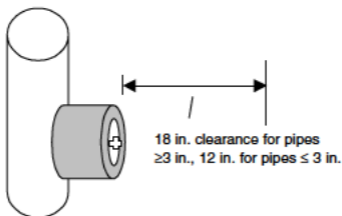

Figure 15-1 CLEANOUT CLEARANCES
- Cleanouts are to have a minimum front clearance of 18 in. for pipes 3 in. or larger. Pipes less than 3 in. must have 12 in. of clearance. Refer to Figure 15-1.